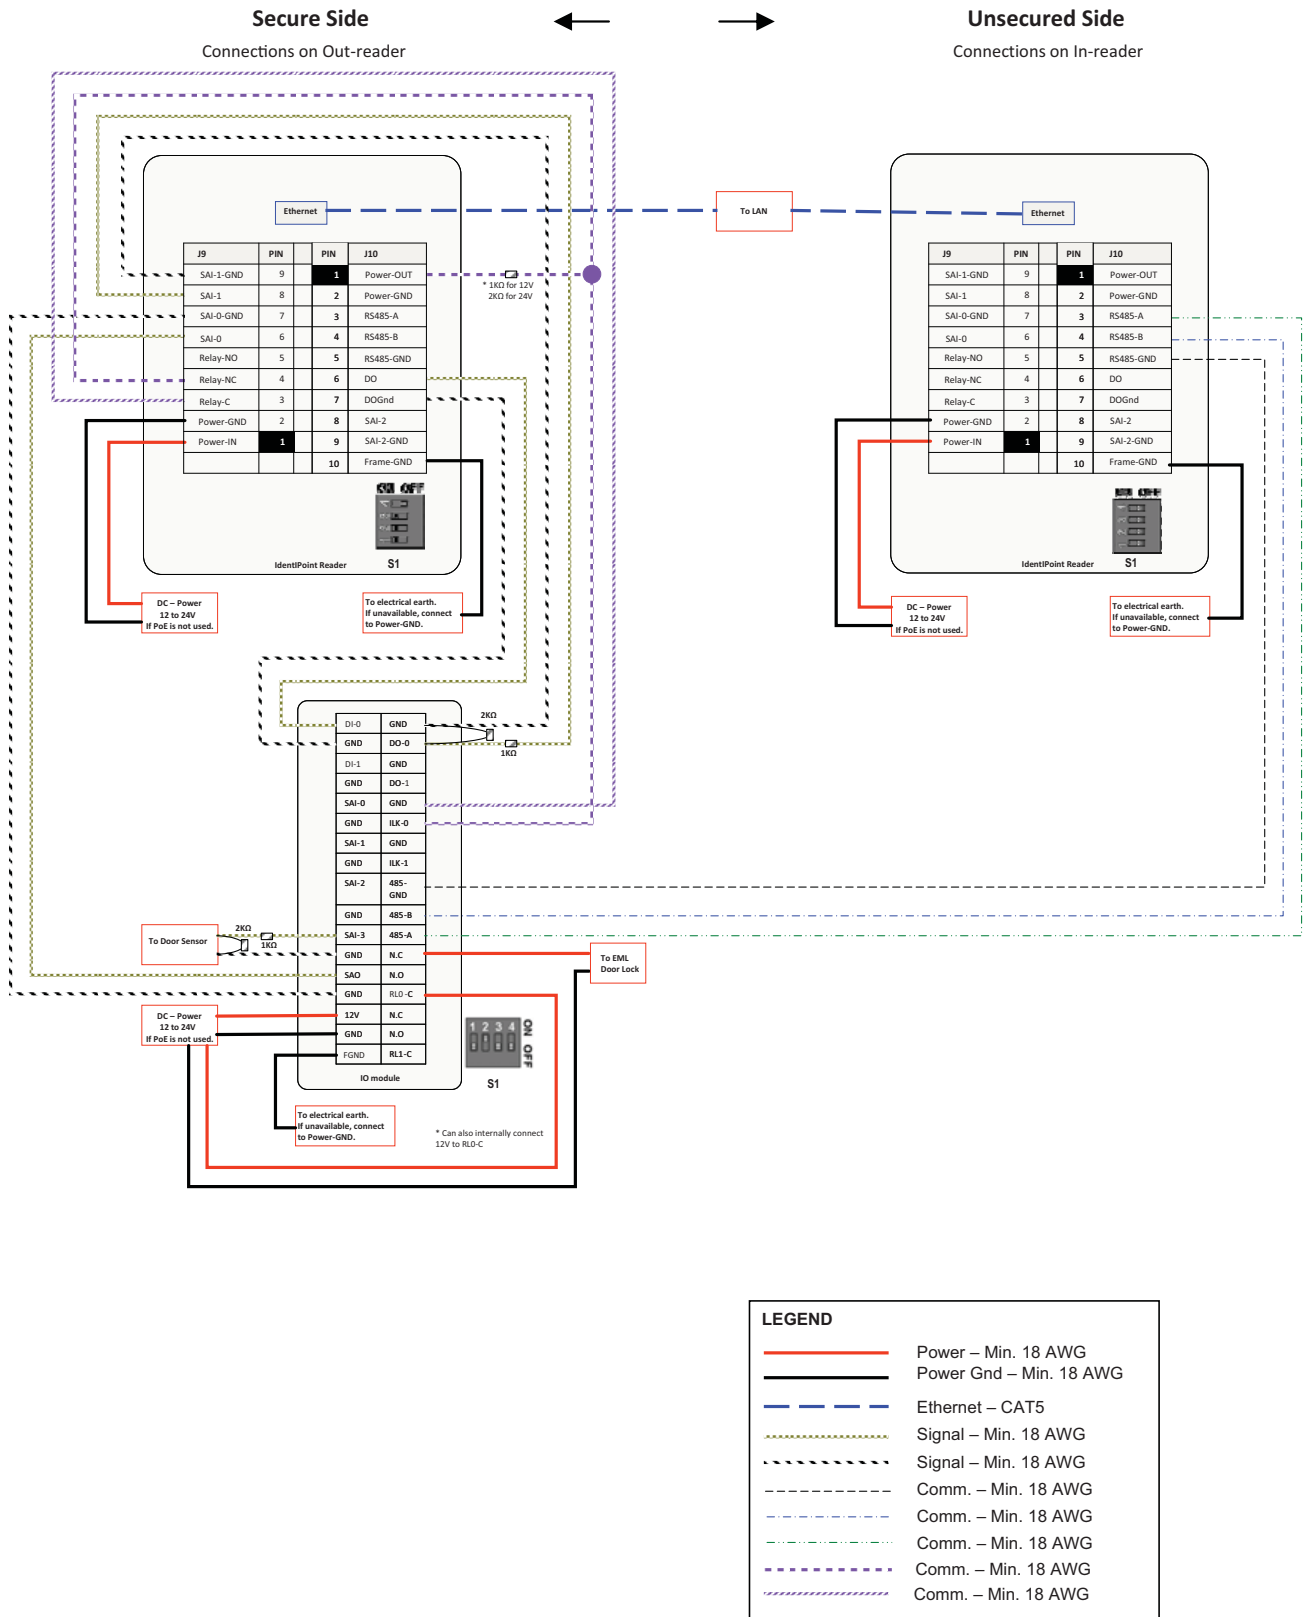

Fig. 23. Connections for two readers with IOM (S1 DIP switch settings shown)
6. Make all other interconnections between the Out-reader and IOM as shown in Fig. 23.